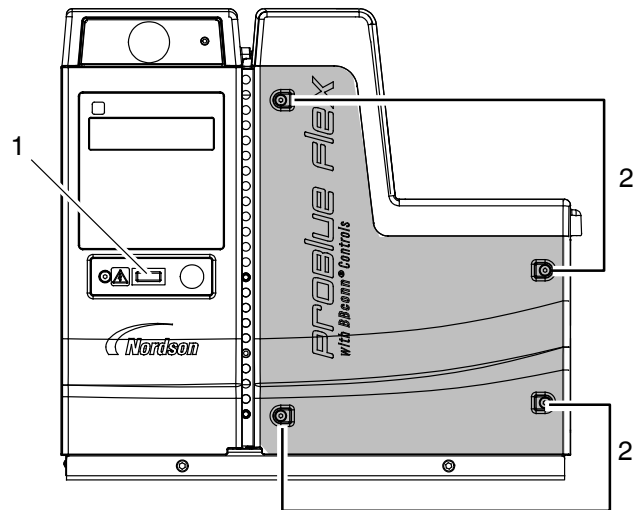

Figure 5-1 Melter front view
2. Remove the front panel from the melter by loosening the four latches. See Figure 5-1.